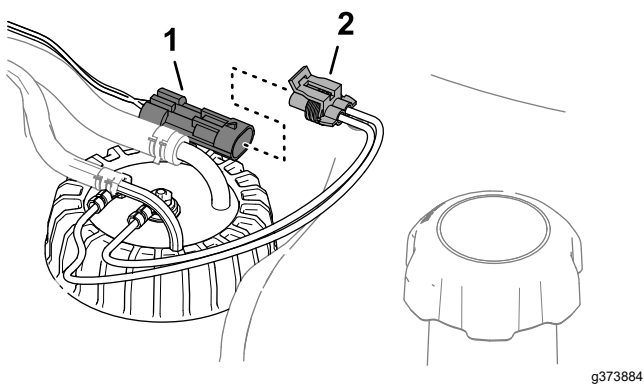

Figure 125
6. Plug the connector of the fuel-sender harness into the connector of the machine wire harness (Figure 125).